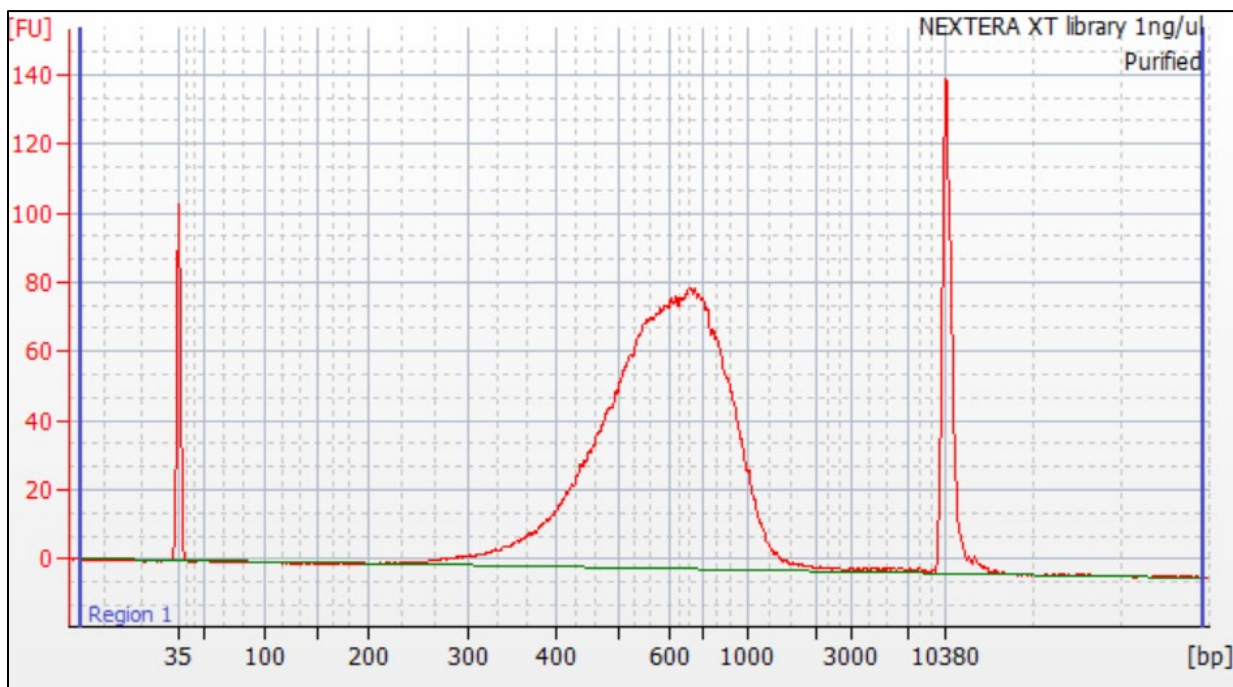

Figure 48. Typical Bioanalyzer trace for purified Nextera XT NGS library that has been normalized to 1 ng/ $\mu$ l.
29. Use the Bioanalyzer results to determine library quality (see Figure 48, below, for an example of a typical Bioanalyzer profile for an NGS library that has been successfully purified and size selected).